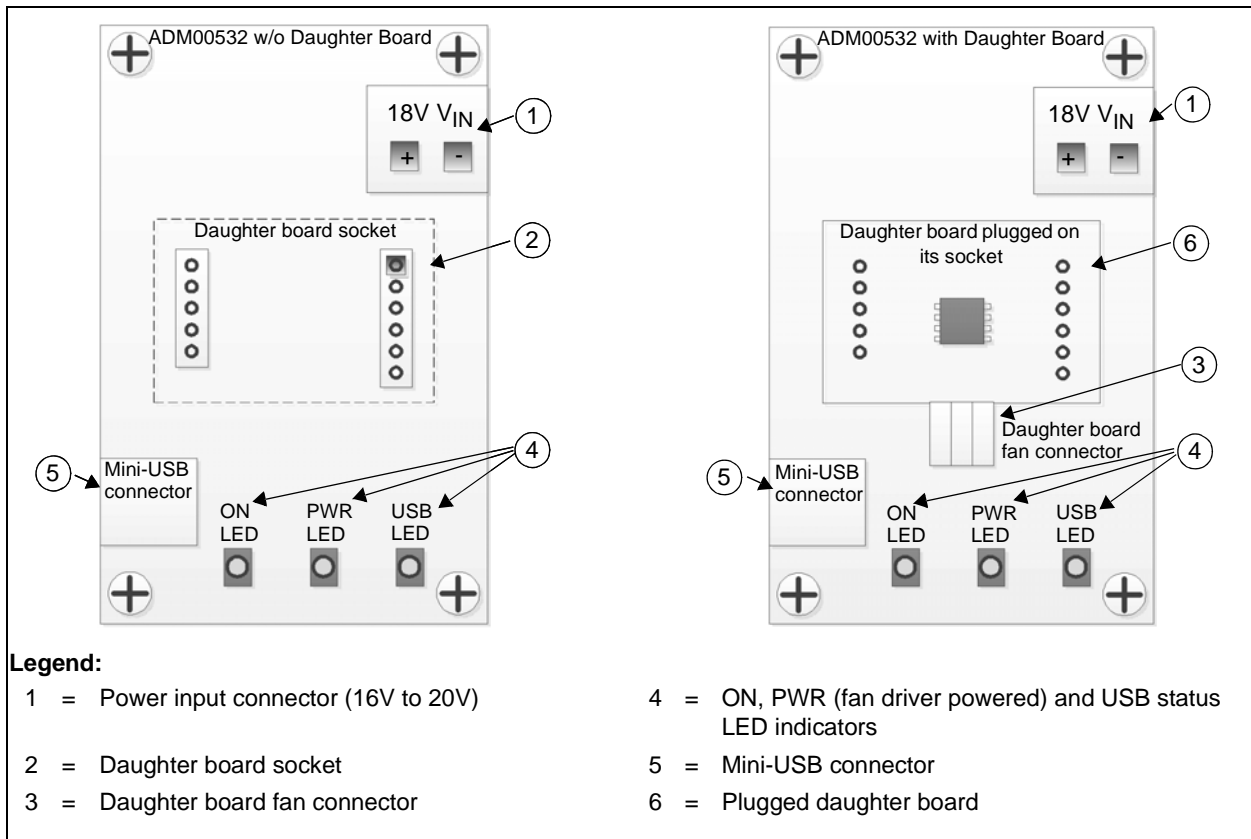

FIGURE 2-1: Top View - Hardware Components.
Figure 2-1 identifies the required points for using the MCP8063 12V 3-Phase BLDC Sensorless Fan Controller Demonstration Board.
1. Plug in a daughter board on its socket (see Figure 2-1).